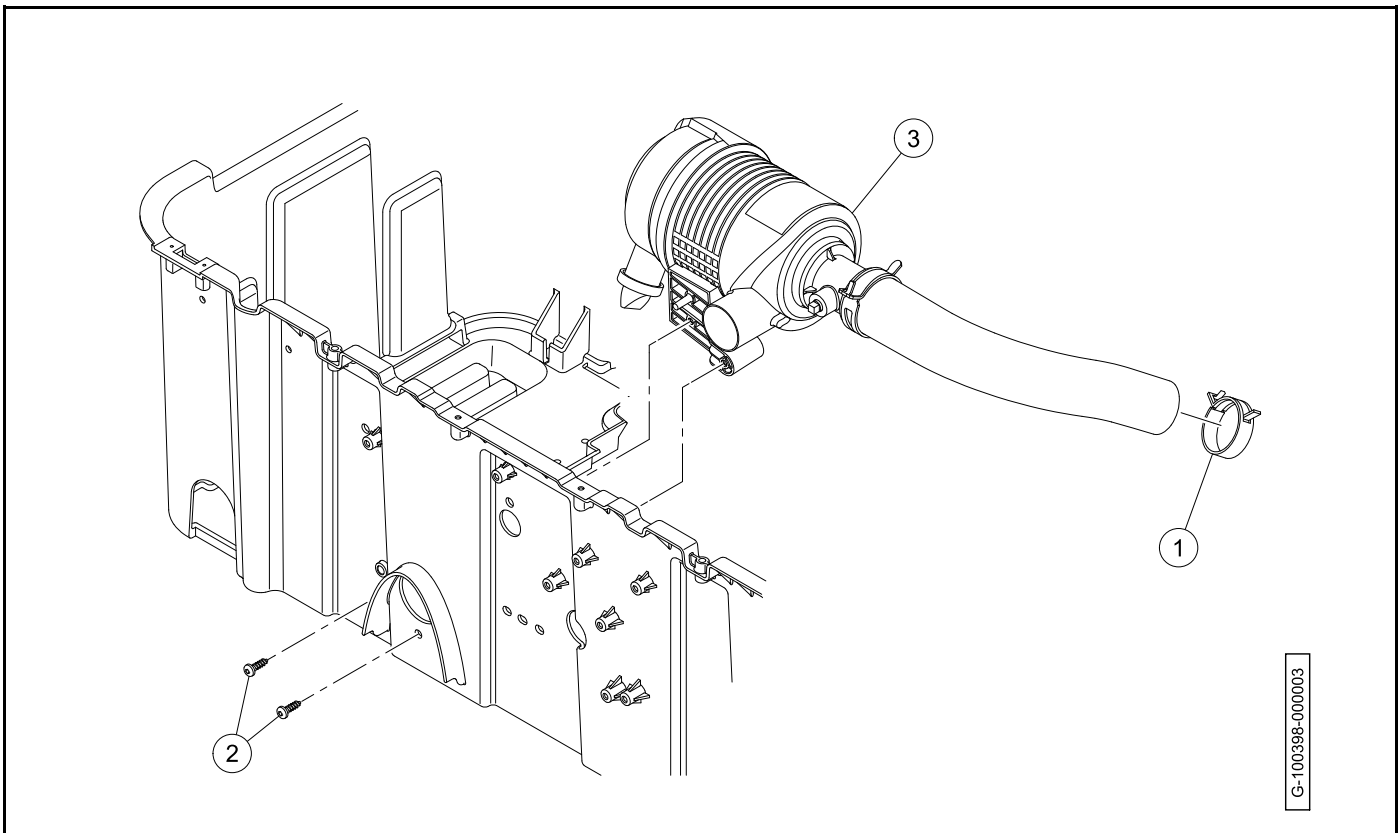

Figure 21-10 Air Intake System
3. Loosen the clamp (1) and disconnect air intake hose from throttle body (**Figure 21-10, Page 21-10**).
4. Remove the screws (2).
5. Remove the air intake system (3).
1. Install the air intake system (3) into the vehicle (**Figure 21-10, Page 21-10**).
2. Install the screws (2). Tighten the screws to 85 in·lb (9.5 N·m).
4. Install the clamp (1).